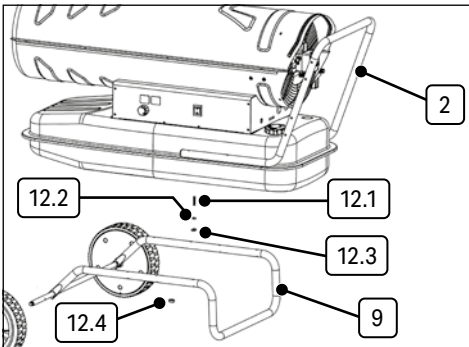
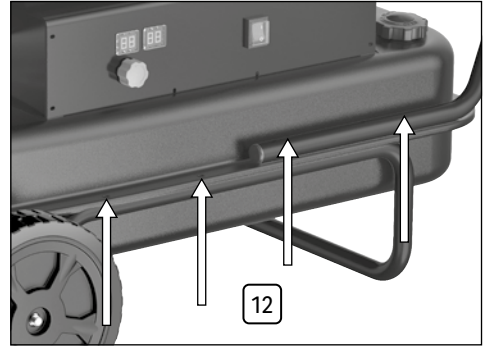

Fig. 2
Fig. 3
3. Fit the wheels (10) to each end of the axle, then secure using the washers (10.3) and the nut (10.4).
6.2 Fitting the Transport Handle & Leg Frame (Fig.2 – Fig.3)